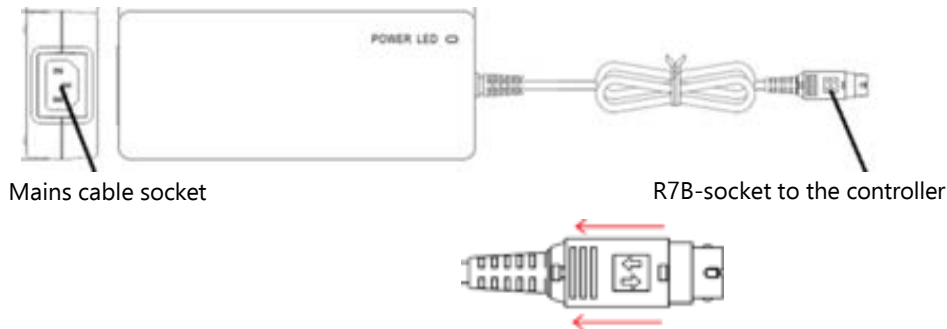

figure 3
- Disconnect the R7B-power supply unit plug from the DC voltage socket (figure 1/4). Therefore pull the lock release in the direction of the arrows (figure 3) to release the R7B power supply unit plug.